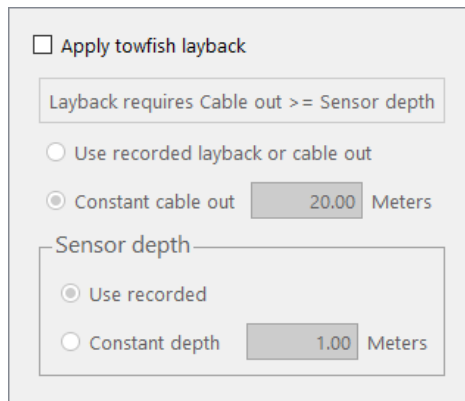

Figure 70. Layback Options
- **Layback:** Set layback options if the sensor is towed and cable out is available. To apply layback, check the box for Apply towfish layback and select options to use recorded or manual cable out and sensor depth data (Figure 70).